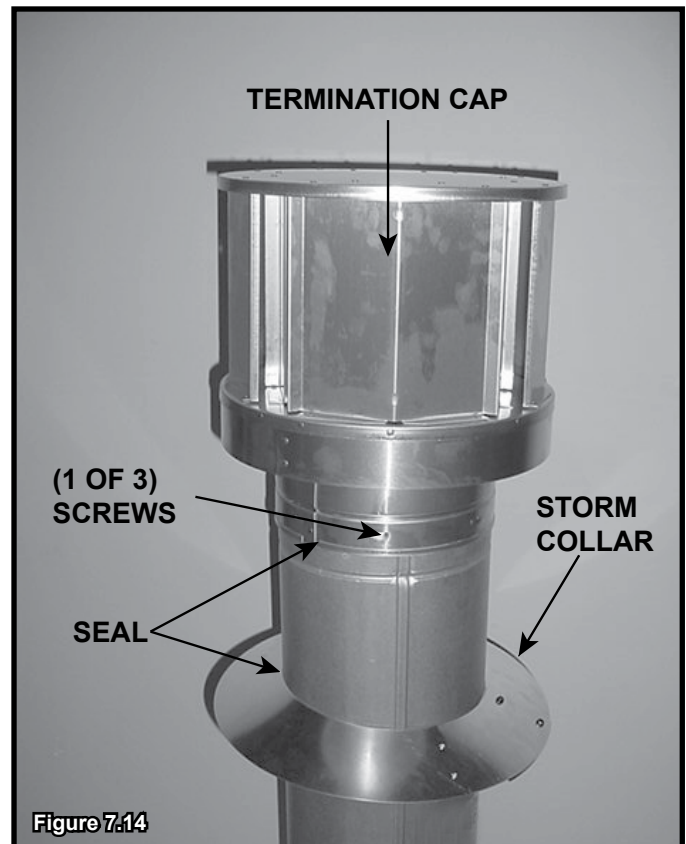

Figure 7.14
- Slide the assembled storm collar down the pipe section until it rests on the roof flashing. See Figure 7.14.
- Seal around the top of the storm collar. See Figure 7.14.
- Secure the cap by driving three self-tapping screws (supplied) through the pilot holes in the outer collar of the cap into the outer flue of the pipe. See Figure 7.14.